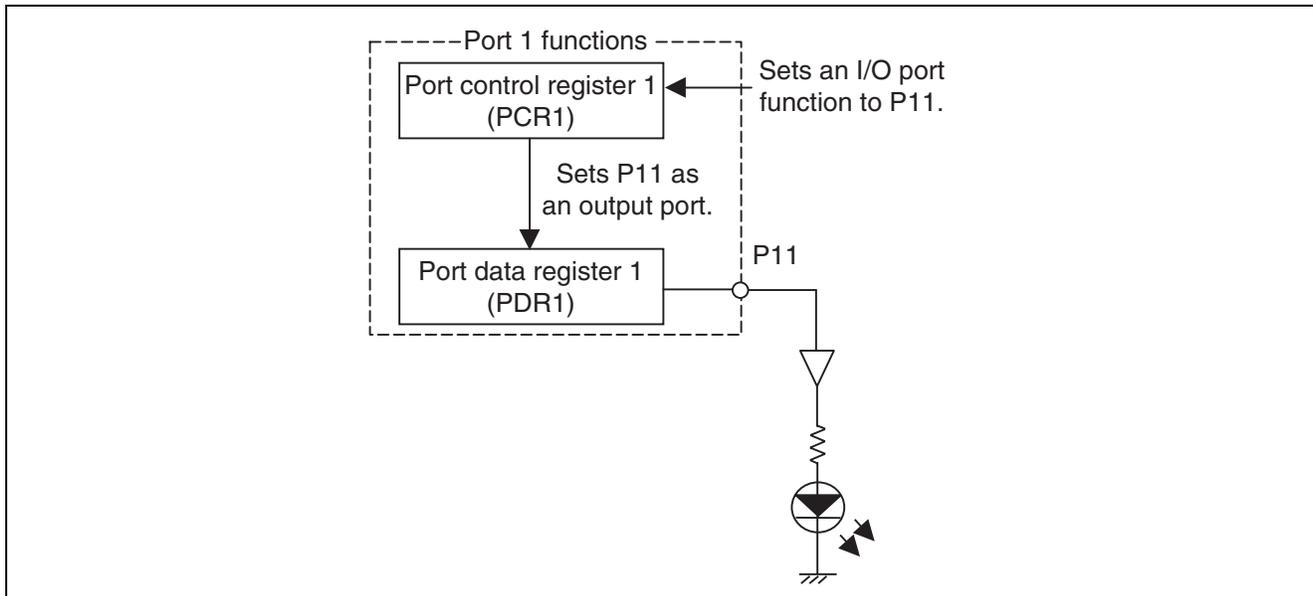

Figure 4 Port 1
2. Figure 4 shows port 1. Each item in the figure is explained below: